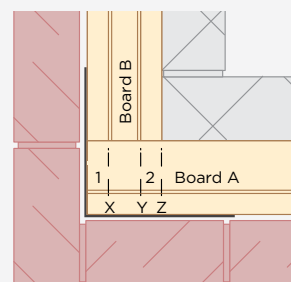
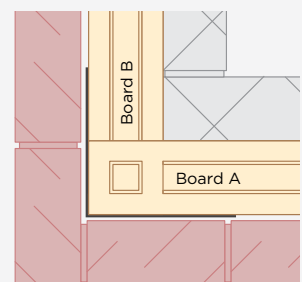

FIGURE 8
FIGURE 9
- Use a sharp specialist insulation saw or insulation knife to score the top of the tongue on board A by lining it up with the tongue edges and right hand edge of board B (as shown with the dotted lines X, Y & Z on Figure 8).
- Cut through the tongue of board A and remove the sections of the tongue (areas 1 & 2 on Figure 8), leaving a 'residual rectangle' of tongue (Figure 9). Note: the cuts will have to be angled to reflect the tapered shape of the tongue (i.e. the top of the tongue is 40mm wide, the bottom is 50mm wide).